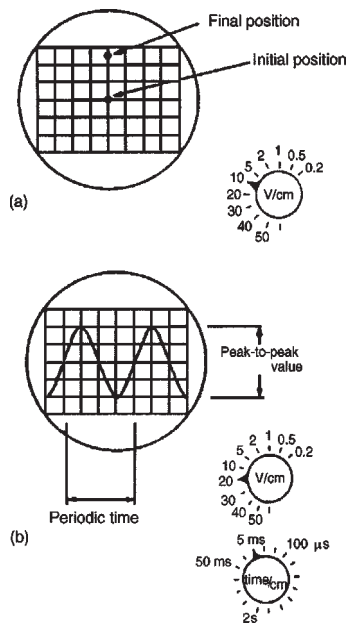

Figure 12.13
- With **direct voltage measurements**, only the Y amplifier ‘volts/cm’ switch on the oscilloscope is used. With no voltage applied to the Y plates the position of the spot trace on the screen is noted. When a direct voltage is applied to the Y plates the new position of the spot trace is an indication of the magnitude of the voltage. For example, in Fig. 12.13(a), with no voltage applied to the Y plates, the spot trace is in the centre of the screen (initial position) and then the spot trace moves 2.5 cm to the final position shown, on application of a d.c. voltage. With the ‘volts/cm’ switch on 10 volts/cm the magnitude of the direct voltage is $2.5 \text{ cm} \times 10 \text{ volts/cm}$, i.e. 25 volts.
- With **alternating voltage measurements**, let a sinusoidal waveform be displayed on an oscilloscope screen as shown in Fig. 12.13(b). If the time/cm switch is on, say, 5 ms/cm then the